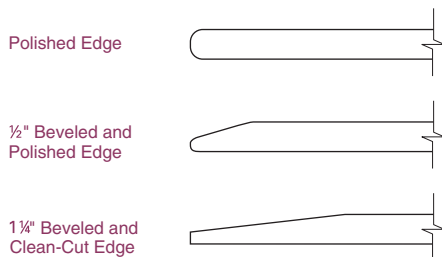

FIGURE 5.20 Mirror bevels.
- **Beveled edge.** A tapered polished edge, varying from 1/4" to a maximum of 1 1/4" thick, produced by machine in a rectangular or circular shape. Other shapes or ovals may be beveled by hand, but the result is inferior to machine bevel. Standard width of bevel is generally half an inch. (See Figure 5.20.)